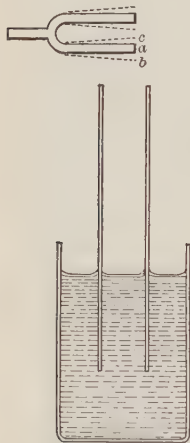

FIGURE 247. — The air column in the tube resonates with the fork.
**EXPERIMENT 73.** — Set a tuning fork in vibration and hold the prongs over the end of an open glass tube in the position shown in Figure 247. Raise or lower the tube in the jar of water until a position is located that gives the maximum loudness to the tone. Then the fork and the air column have the same vibration frequency, and the fork has set the air column into vibration. *How is the note of the fork made louder?*
When the length of the air column in Experiment 73 was adjusted so as to give the maximum loudness to the sound originated by the fork, the prongs of the fork vibrated in unison with the air column in the tube. When the prong at *a*, Figure 247, moves toward *b*, it starts a condensation down the tube. This impulse reaches the water at the bottom of the tube just as the prong arrives at *b*. The condensation is reflected by the water and gets back to *a* just as the prong does. The reflected impulse and the prong are then moving in the same direction and the reflected condensation intensifies the sound being produced by the fork.